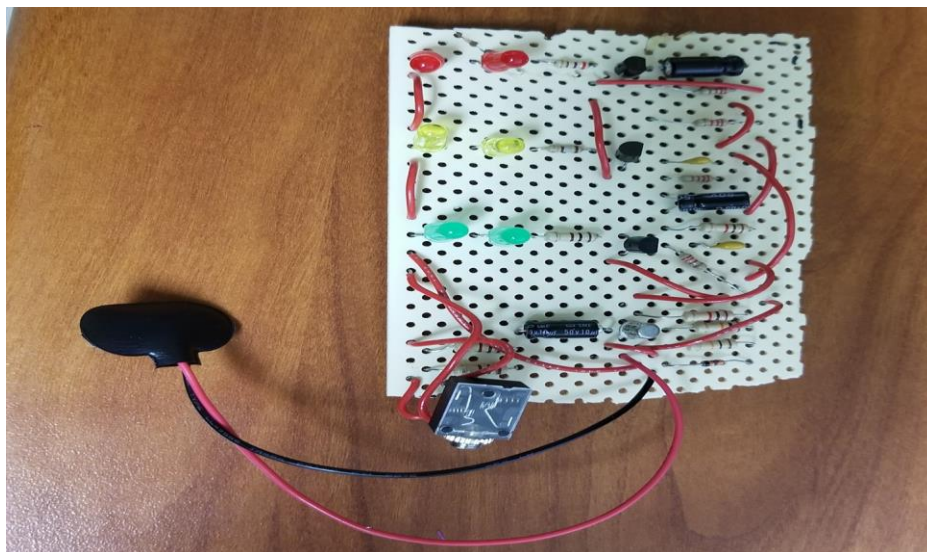

Figure 1-6
7. Cut a 4.5in by 3in of perfboard then place all of the components to make the circuit shown in Figure 1-1 as shown in Figure 1-6. Use jumper wire to make any connections that are far apart.